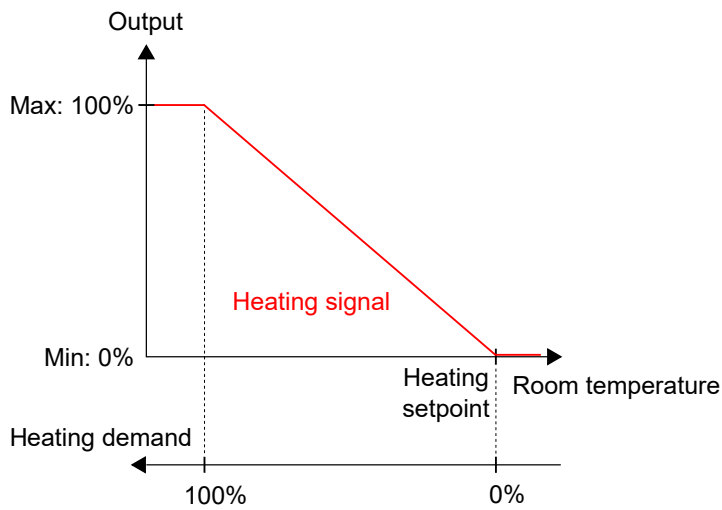

Figure 3-4 Control behaviour for the Heating sequence
*Figure 3-4* illustrates the control behaviour for this controller mode when no maximum or minimum limits are set.